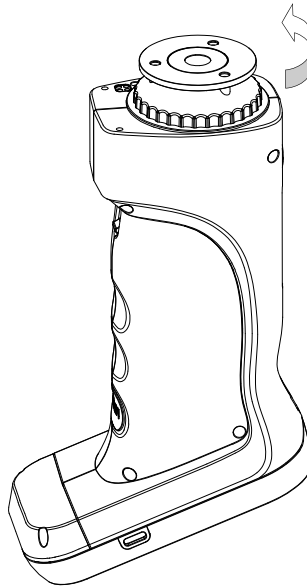

Figure 42 Measurement Aperture Uninstall
**Step 1:** As shown in Figure 42, counterclockwise rotates the measurement aperture, and take off it, then install the new aperture clockwise. When you hear "DA", it means that the measuring aperture and the integrating sphere button position are well matched, then the measuring aperture is installed well